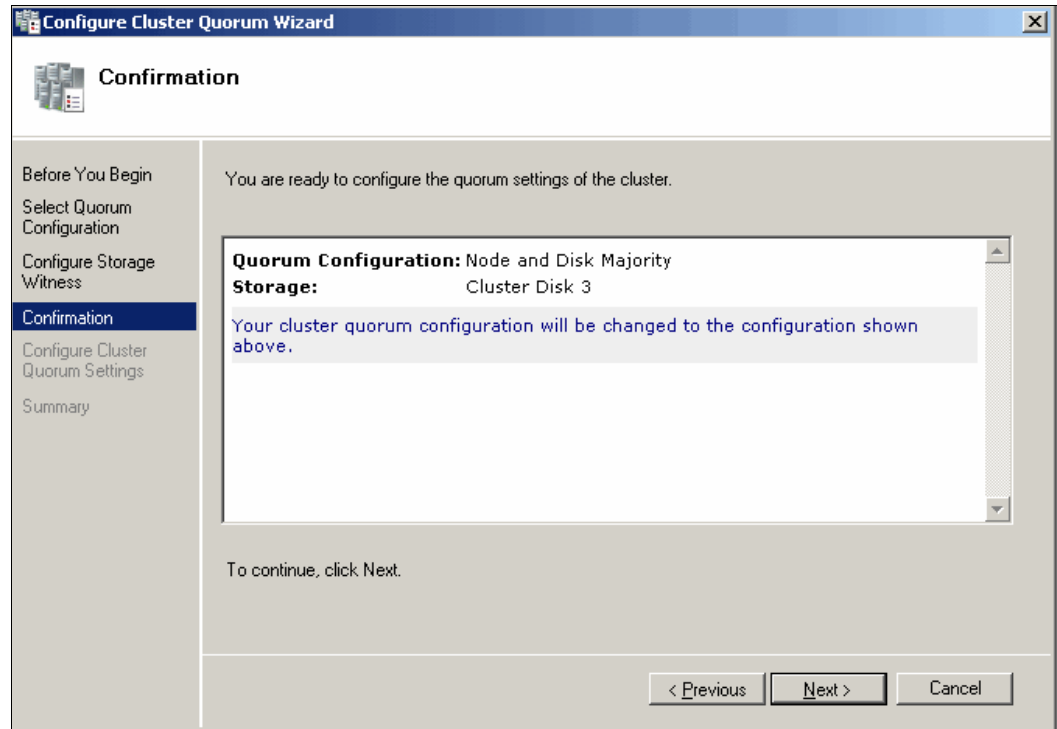

Figure 19-25 Confirmation of Quorum Configuration
6. Confirm the Quorum Configuration as shown in Figure 19-25 on page 577 and click **Next**.